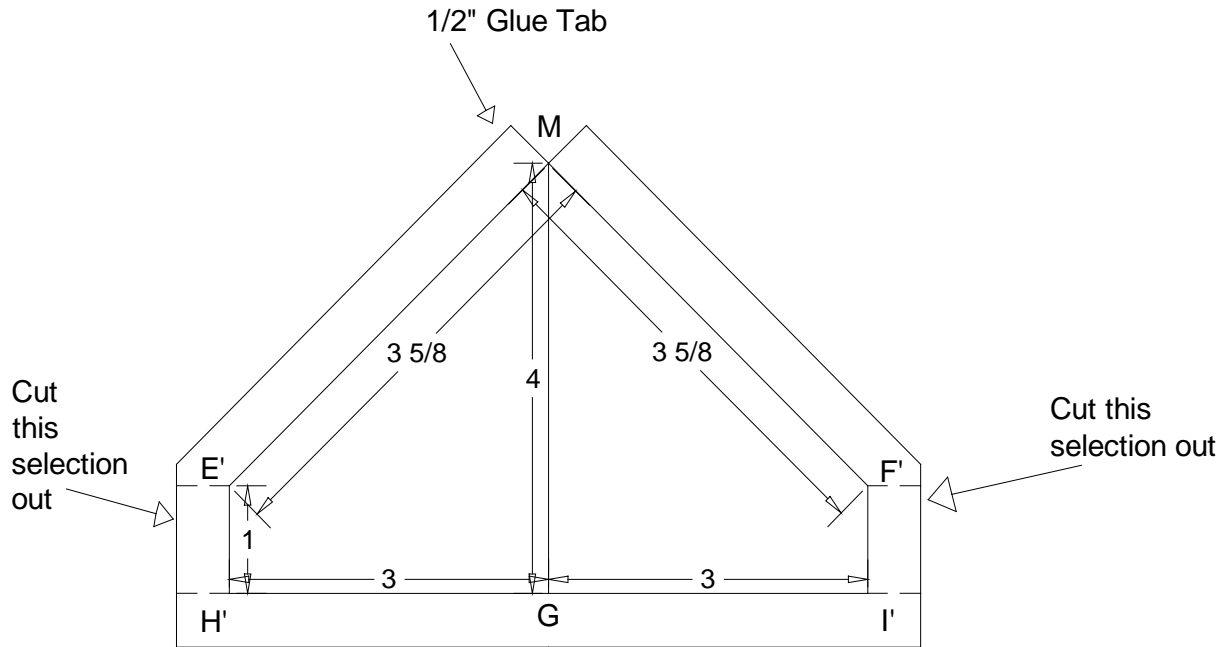

Figure 8.11
13. Let’s now construct the front gable. The side elevation shown in **Figure 8.4** helps us determine that the distance from the mid-point M of the main roof ridge to the roof peak of the front gabled roof is 3 inches. We also know that the slope of the roof is 3 inches, as are all the roof slopes. By drawing these two dimensions and taking into consideration the 1 inch bump out, we can measure the distance between points E¹ and M to complete the front gabled roof. **Figure 8.11** shows the net for the front gabled roof with ½” glue tabs included.